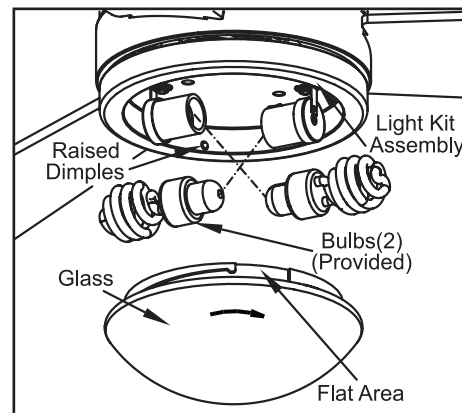

Figure 12
4. With power off, install the two fluorescent bulbs (Max. 14W, supplied) by screwing into the light bulb sockets (Figure 12).
5. Place the glass shade into the light kit assembly, aligning the three flat areas on the top flange of the glass shade with the three raised dimples in the light kit assembly. Turn the glass shade clockwise until it stops (Figure 12).